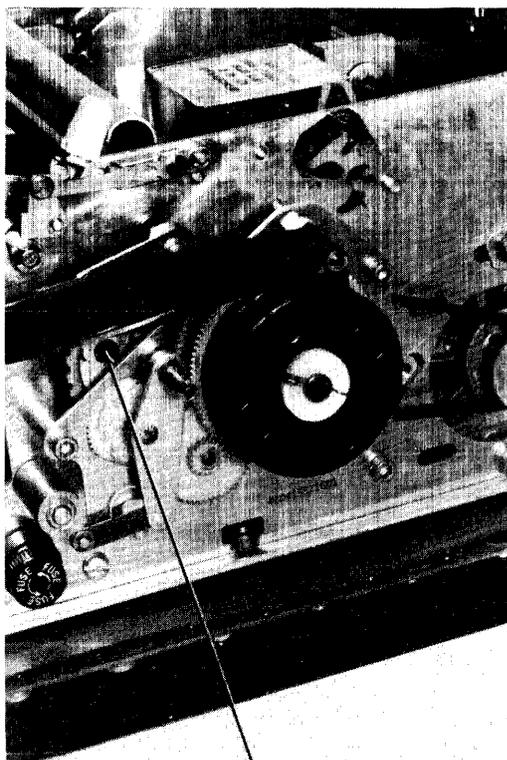

Figure 5-24. Torque Shaft Adjustment.
3. Holding the Paper Release Lever in the engaged position, place a screwdriver in the end of the torque shaft (see Figure 5-24) and turn counterclockwise until pressure is felt.
5. Remove the fan blade and the two screws (see Figure 5-24) holding the motor to the frame.